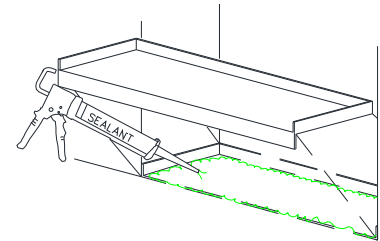

Figure 4:
- Secure the sill-pan to the floor with sealant. Position sill pan as necessary to allow for proper installation of frame assembly (Figure 4).